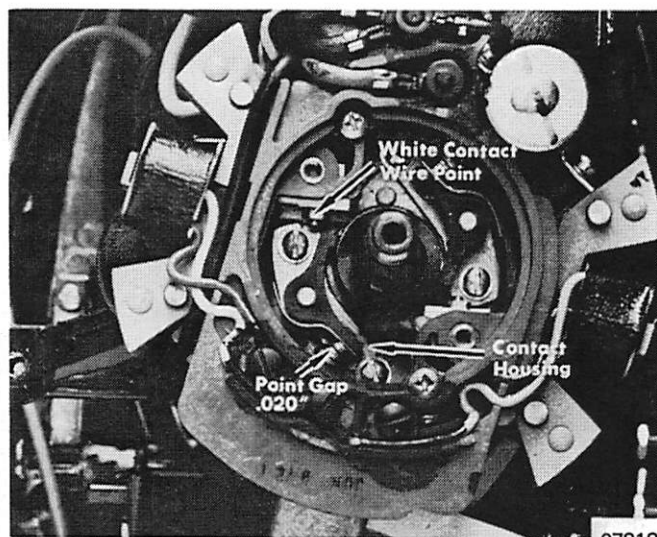

Figure 1. Checking Contact Point Gap
2. Remove rewind starter, flywheel and module cover to expose contact point. (Figure 1)
3. Rotate crankshaft to position contact point cam follower at high point on cam. (Figure 2) Adjust point to .020". (Figure 1) Reinstall flywheel assembly.
8. Connect one meter lead to white contact lead and other meter lead to contact housing arm. (Figure 1)